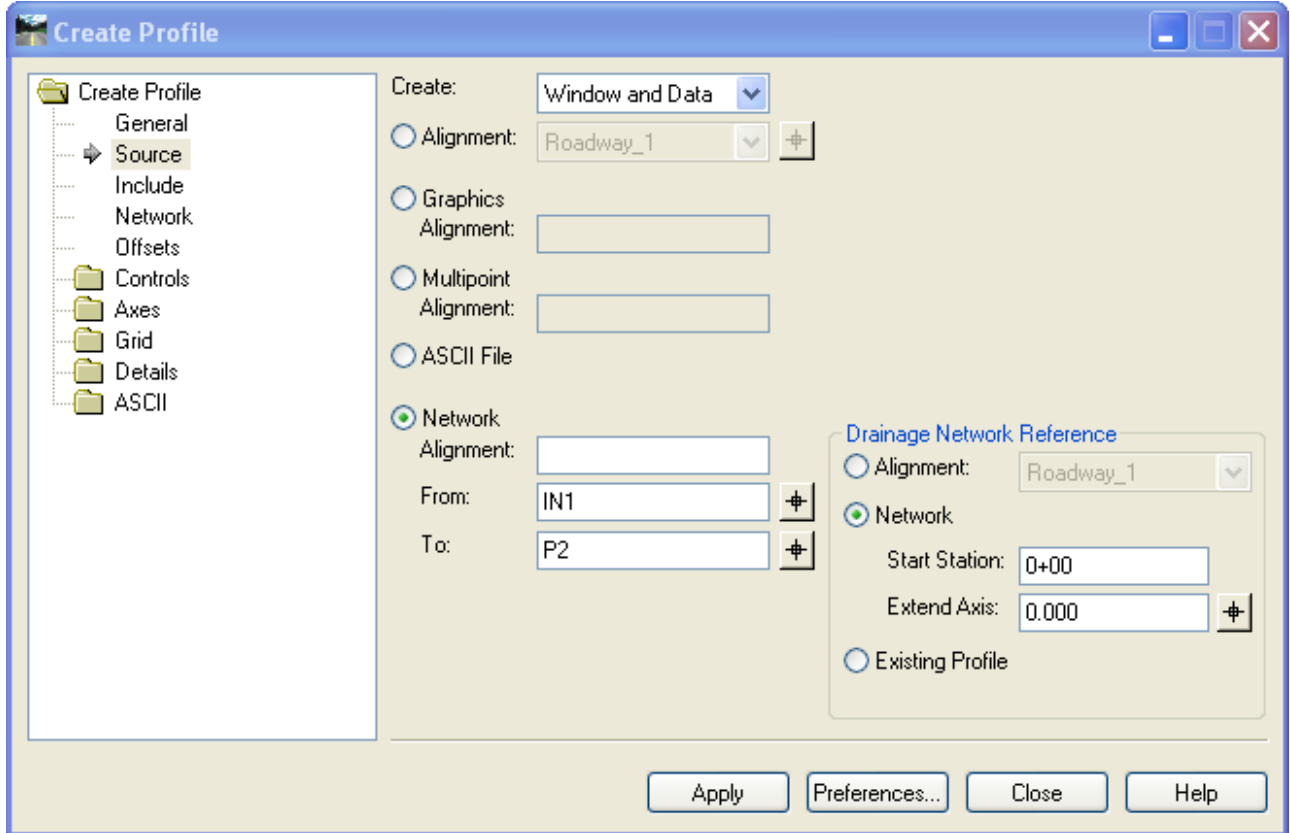

Figure 13-10 InRoads Create Profile Dialog Box, placing drainage profile
- C. Under Source follow Figure 13-10.